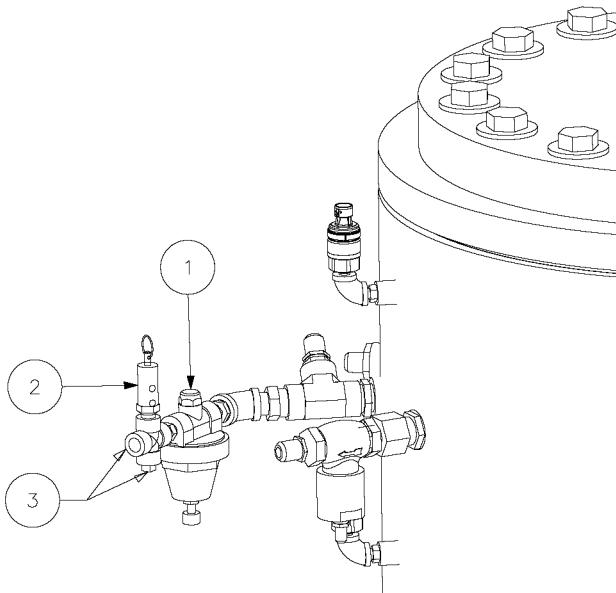

Figure 6-5: Auxiliary Air Tank
1. With the compressor off and system air pressure bled down, remove the auxiliary safety relief valve. Refer to *Figure 6-5*.